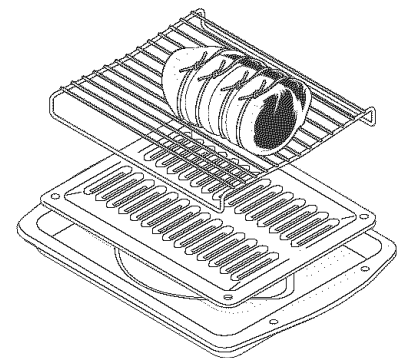

Fig. 4
3. Position food (fat side up) on the roasting rack (See Fig. 4).
Convection Convert may **ONLY** be used with a **Bake**, **Timed Bake** or a **Delayed Timed Bake** setting. When used with a Timed Bake or a Delayed Timed Bake setting, the Convection Convert feature will display a **"CF"** for check food when the bake time is 75% complete (See Fig. 4). At this time the oven control will sound 3 long beeps at regular intervals until baking has finished. When the bake time has completely finished the control will display **"End"** and will sound 3 long beeps every 30 seconds until the  pad is pressed (See Fig. 5).